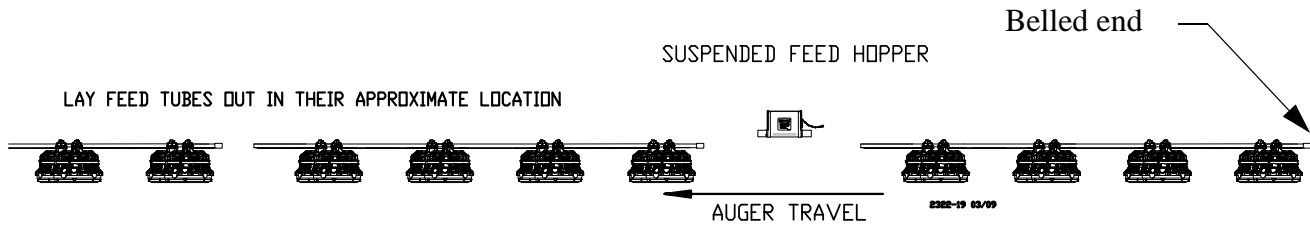

Figure 45. Tube layout
1. Position the tubes end to end in approximately the final location of the line. The feeder tubes should be installed so the expanded (belled) end of each tube points in the opposite direction of the auger travel, see **Figure 45**.